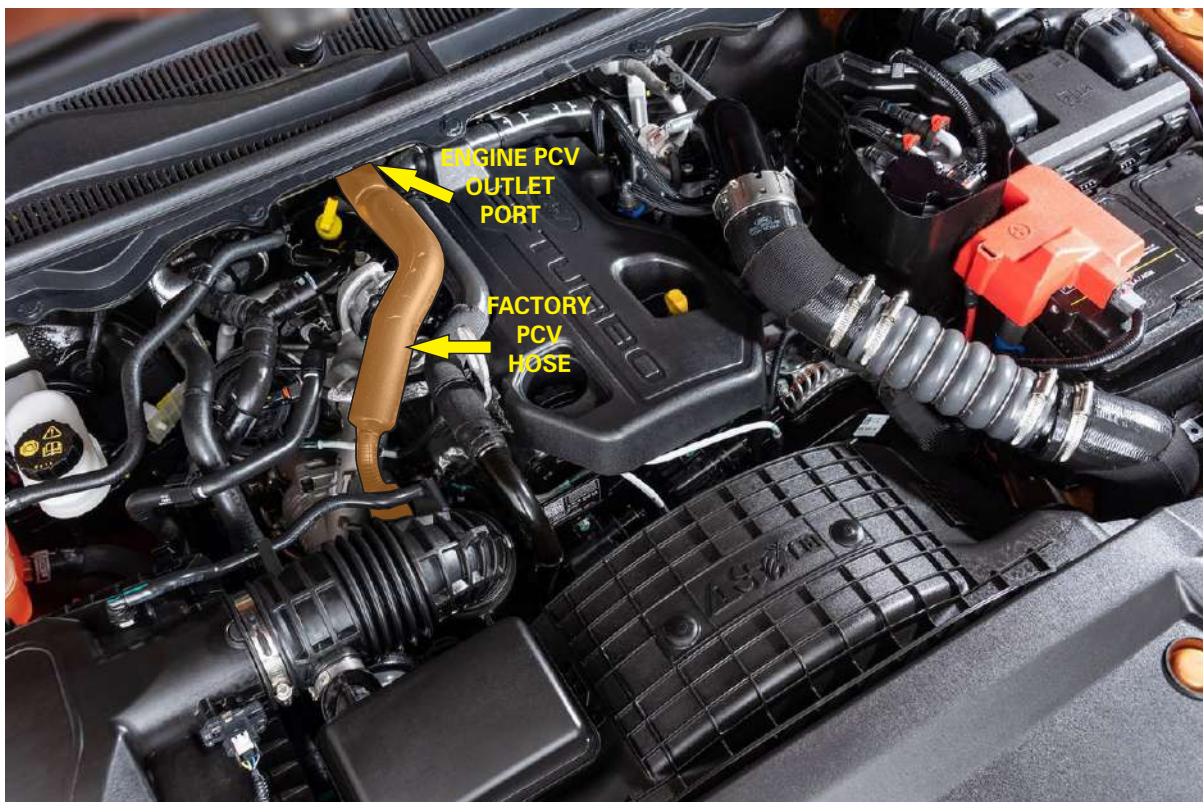

FIG. 7 FACTORY PCV HOSE
3. Remove factory PCV hose by lifting the locking collars and pulling upwards. The PCV hose is connected to the PCV valve located at the top of the engine at rear drivers side corner, and to the air intake towards the front of the engine bay as per Fig. 7 below.